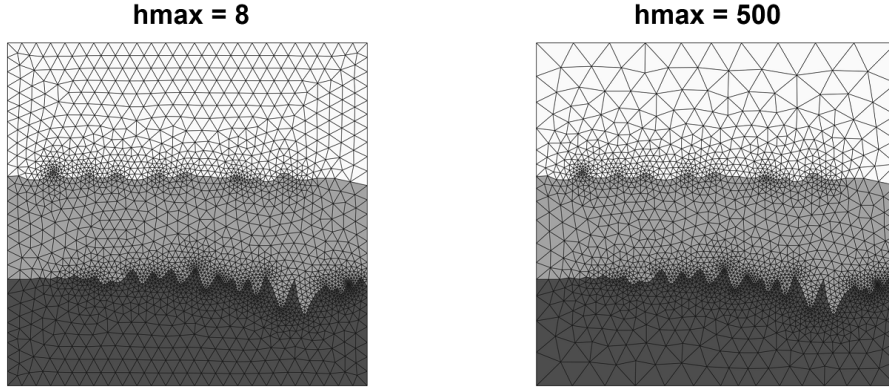

Figure 9: Effect of *Max Mesh-size*
- *Max Mesh-size*: Maximum mesh edge lengths. This is an approximate upper bound on the mesh edge lengths (Figure 9). Type: Float. Range:  $> 0$ .